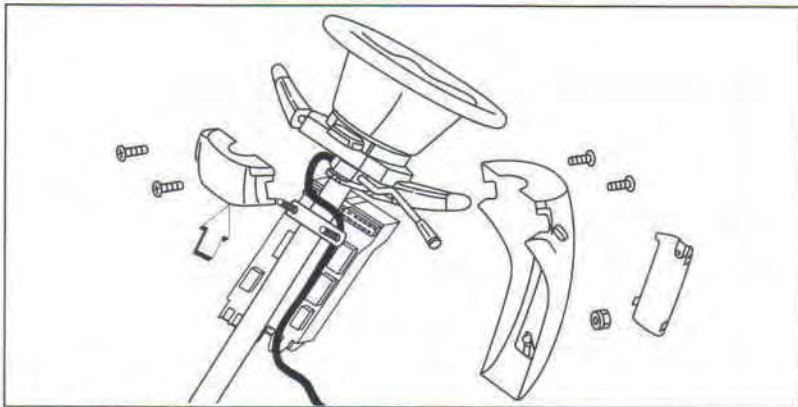

Figure 249 Reinstalling Fuse Block 1 and Upper and Lower Steering Column Covers
20. Reinstall Fuse Block No. 1 and upper and lower steering column covers (Figure 249). The upper cover has a slot on the back (arrow) for the speed control lever. Reinstall the M relay and the fuse block locking cover.